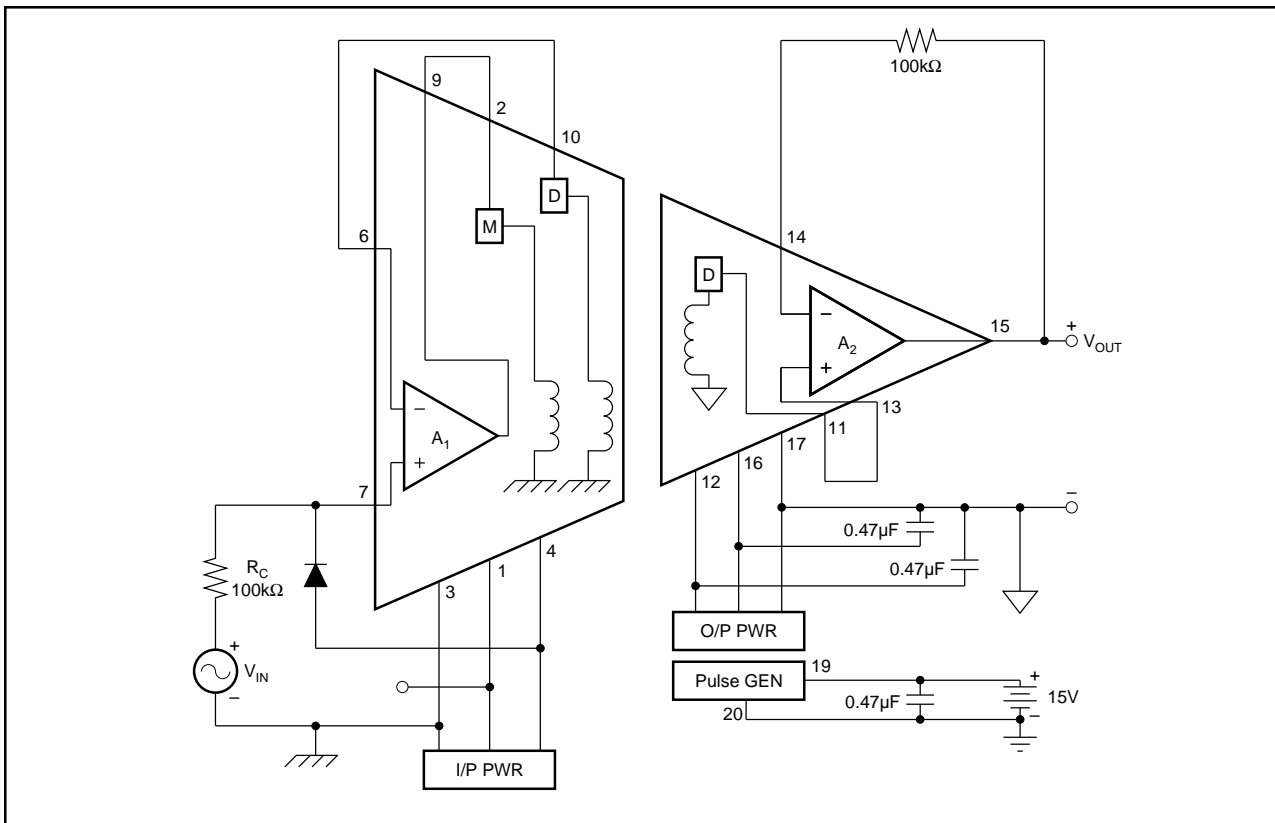

FIGURE 2. Power: Three-Port Isolation; Signal: Unity-Gain Noninverting.
5. The input voltage at pin 7 (noninverting input to A_1) must not exceed the voltage at pin 4 (negative supply voltage for A_1) in order to prevent a possible lockup condition. A low leakage diode connected between pins 7 and 4, as shown in Figure 2, can be used to limit this input voltage swing.
NOTE: Figures 2, 3 and 4 are used to illustrate both signal and power connection configurations. In the circuits shown, the power and signal configurations are independent so that any power configuration could be used with any signal configuration.
The power supply connections in Figure 2 show the full three-port isolation configuration. The system has three separate grounds with no galvanic connections between them. The two external $0.47\mu\text{F}$ capacitors at pins 12 and 16 filter the rectified isolated voltage at the output stage. Filtering on the input stage is provided by internal capacitors. In this configuration continuous isolation voltage ratings are: 3500V between pins 3 and 17; 3500V between pins 3 and 19; 1000V between pins 17 and 19.
The signal path portion of Figure 2 shows the 3656 is its simplest gain configuration: unity gain noninverting. The two $100k\Omega$ resistors provide balanced resistances to the inverting and noninverting inputs of the amplifiers. The diode prevents latch up in case the input voltage goes more negative than the voltage at pin 4.